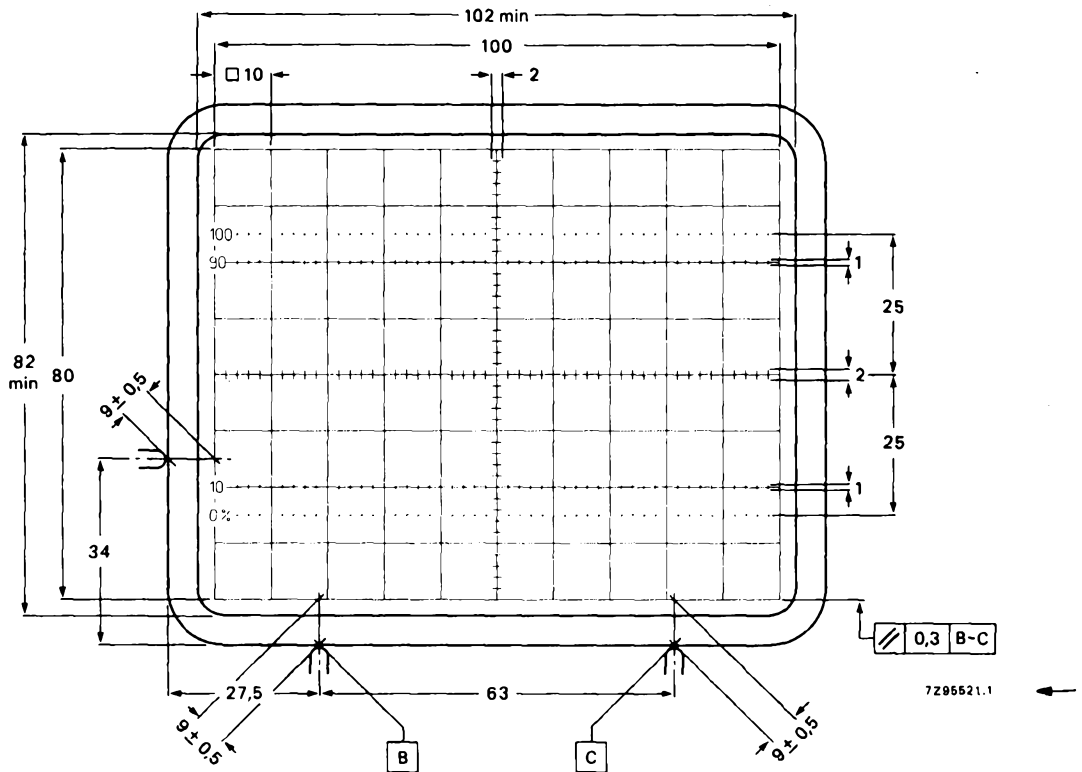

Fig. 4 Front view of tube with internal graticule, type 123.
- (1) Dimensions of faceplate only. The complete assembly of faceplate and cone (frit seal included) will pass through an opening of 122 mm x 102 mm.
- (2) The coil is fixed to the envelope with resin and adhesive tape.
- (3) The length of the connecting leads of the rotation coil is min. 350 mm.
- (4) Reference points on faceplate for graticule alignment (see Fig. 4).
The internal graticule is aligned with the faceplate by using the faceplate reference points, see Fig. 4. See also note 1.